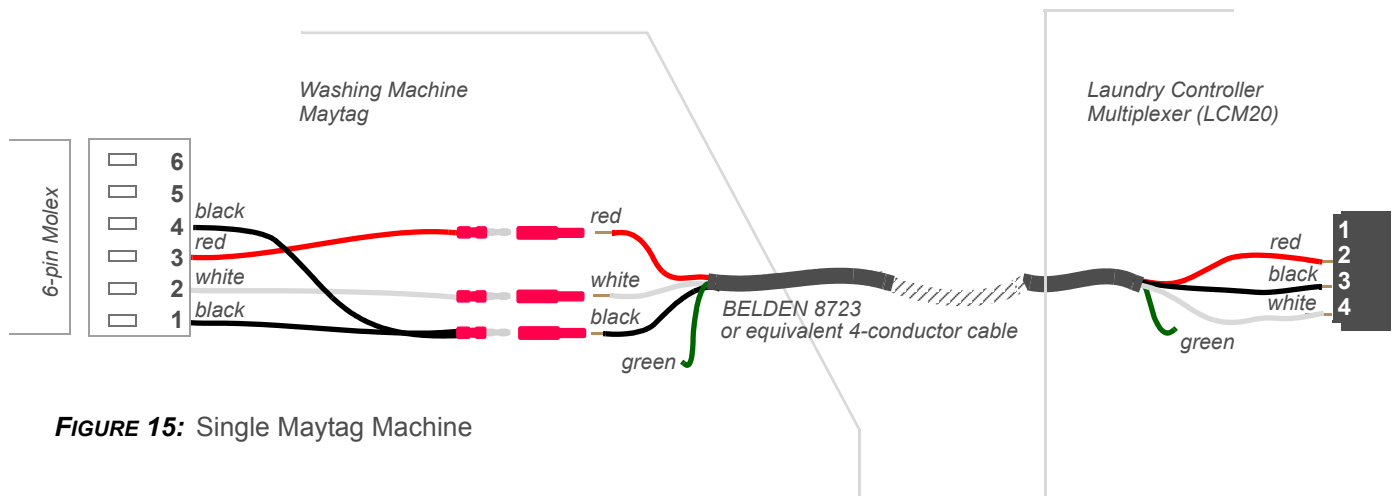

FIGURE 15: Single Maytag Machine
- 4 Insert the LCI male bullet connectors into the female connectors of the 4-conductor cable (white to white, black to black, etc.) See Figure 15.